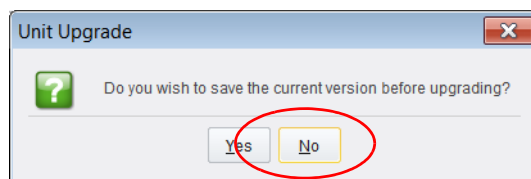

Fig. 11-10: Unit Upgrade Dialog - Click NO
- 7 Click **No** in response to the question in the dialog (Figure 11-10).
Note: (Figure 11-10) "Do you wish to save the current version before upgrading?"
Click **No** in response to the message box shown in Figure 11-10.